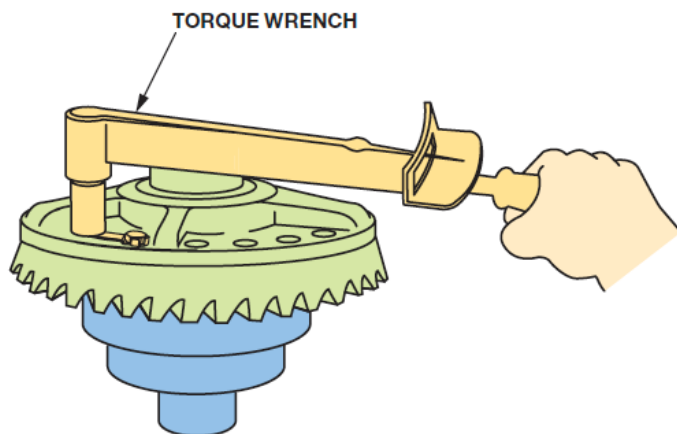

Figure 14. Tightening the ring gear mounting bolts.
- Use new retaining bolts and torque them to factory specifications. Figure 14.